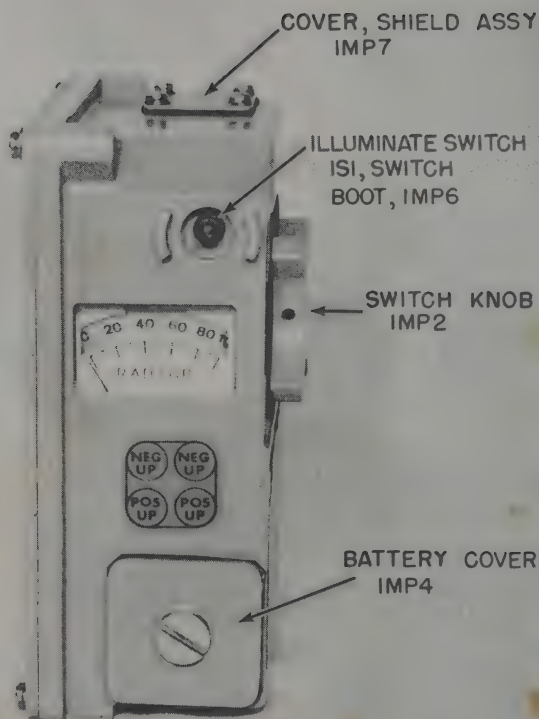

Figure 3-1. High Range Unit, IM-226/PDR-63
b. The High Range module, Figure 3-1, and either or both accessories may be carried by the operator by attaching the respective pouches to a web belt. All operating controls are accessible. Only one accessory at a time may be connected to the High Range unit.